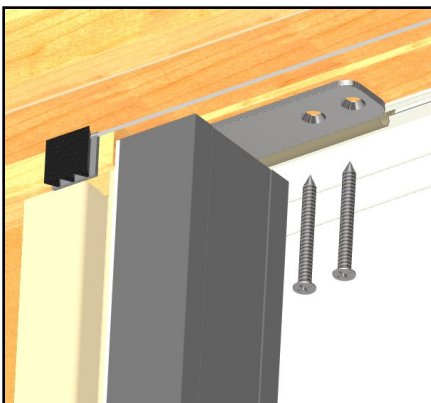
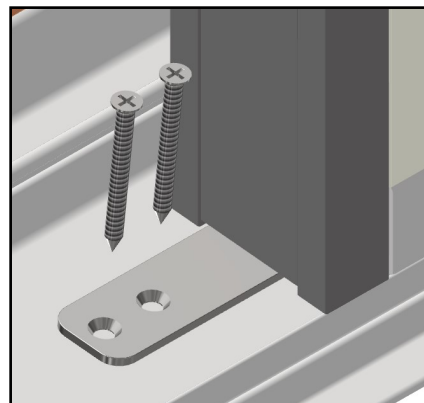

Figure 7
Figure 8
10. With the unit installed, predrill through head jamb and sill and fasten the head and sill clip into the surrounding framing with screws, #10 X 2 1/4". (Fig. 7 & Fig. 8)